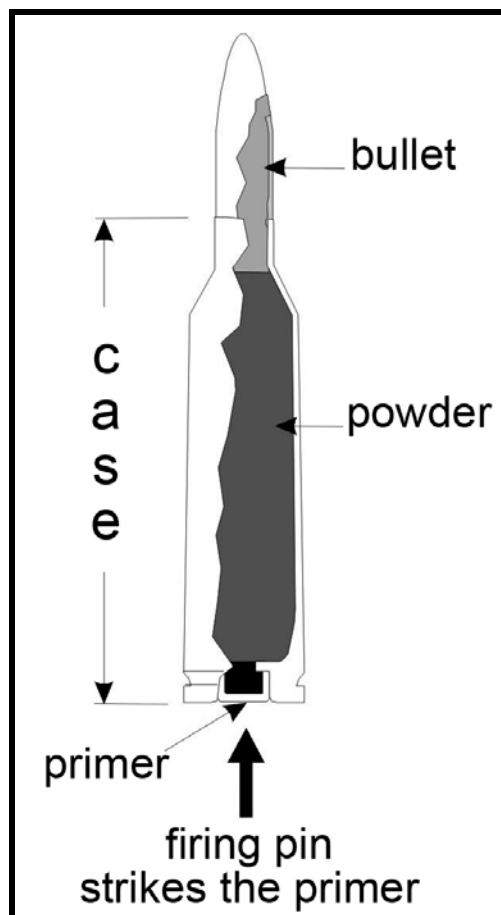

Figure 22. Centre-fire cartridge
- b. **Centre-fire** ammunition (Figure 22) is used for higher power firearms. The primer is located at the centre of the base of the cartridge case. The firing pin strikes the primer. This explodes the priming compound. This in turn ignites the powder charge.